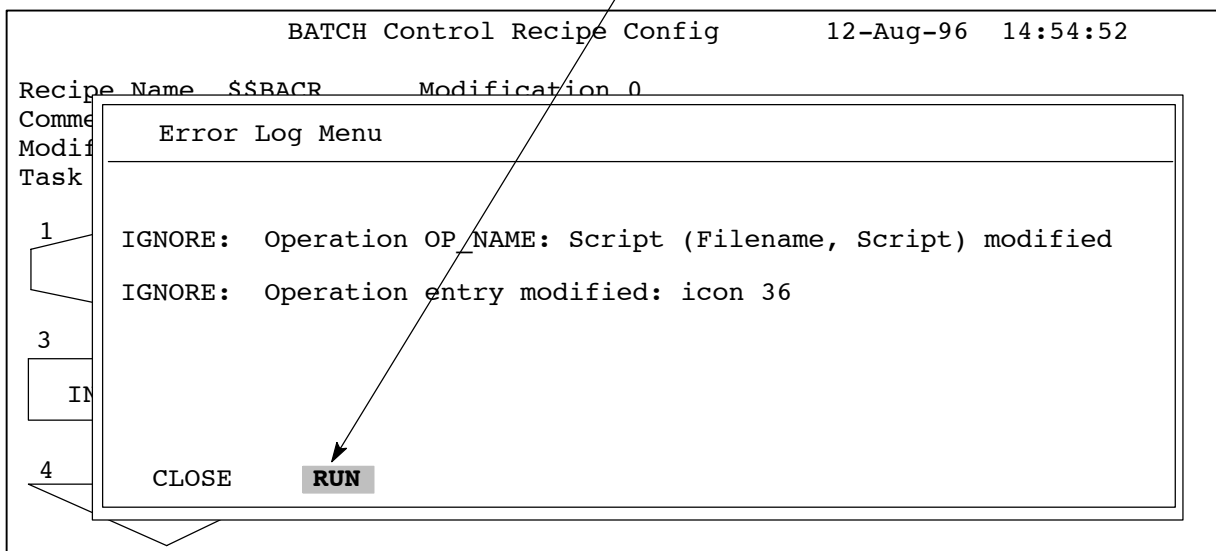

Figure 2.10. Starting the Control Recipe from the Error Log Menu
- Warning - Icon validation (Unit or Operation) is set to “Warn”. By acknowledging the warning and selecting “Run”, you can start the recipe (see Figure 2.10).
Figure 2.10 shows how to start the Control Recipe from the Error Log Menu.